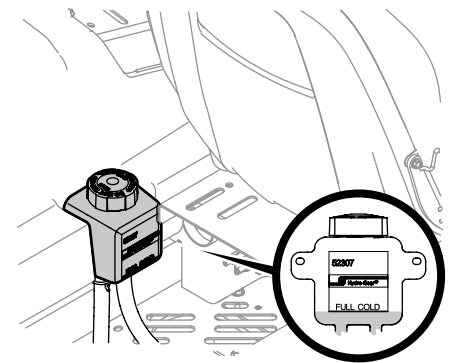

Figure 4-3
1. Pivot the operator's seat forward and clean the reservoir cap and the area around the cap to prevent debris from contaminating the transmission oil. See Figure 4-3.
2. Turn the reservoir cap counterclockwise to re-move, then check the oil level in the reservoir. Oil should be visible at the bottom of the cup, but the oil level must NOT be above the "FULL COLD" line. See Figure 4-3. **DO NOT FILL THE RESERVOIR.**